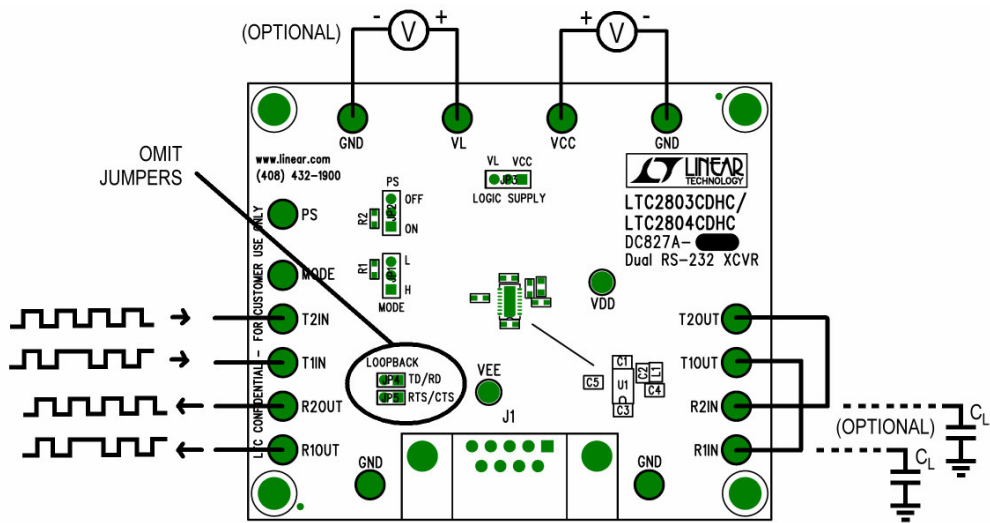

Figure 1. Setup for Transmitter Loopback Mode
Demonstration circuit 827 is easy to set up for evaluating the LTC2803 and LTC2804. Refer to Figure 1 or Figure 2 for proper setup and follow the procedure below:
4. For transmitter loopback mode (Figure 1), connect each driver output to a receiver input. Connect input sources to the driver inputs. (Make sure that input voltages don't exceed 7V.) Omit Loopback jumpers **JP4** and **JP5** for this mode.